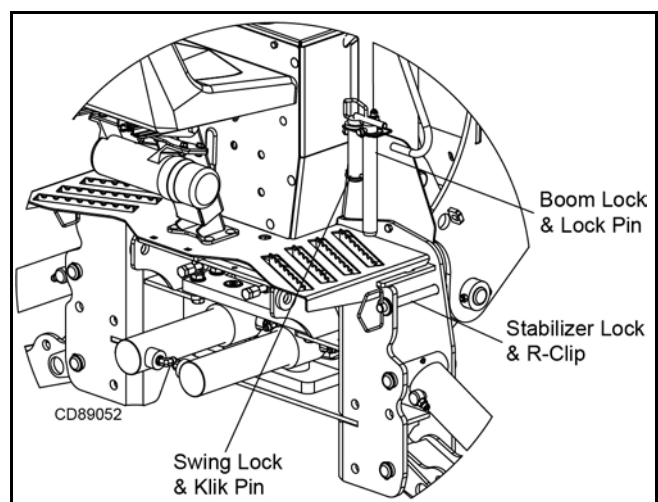

Figure 15. Pin Storage Position
1. Store swing and boom lock pins in holes on rear of console during operation. Install lock pin and klik pin, Figure 15.
2. Store stabilizer lock pins in main frame. See Figure 15.